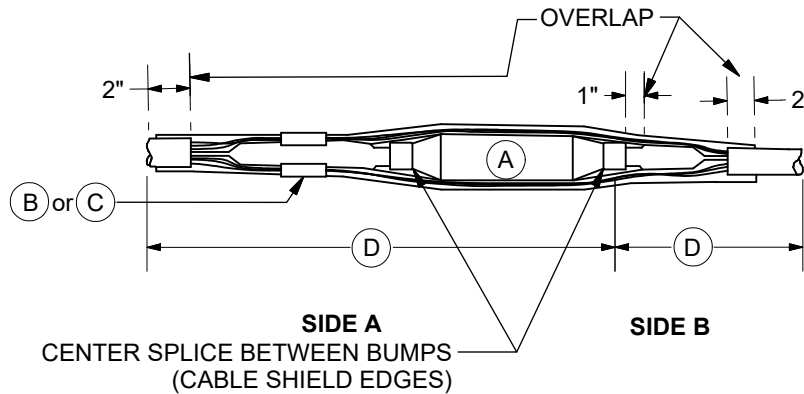

Figure 3
10. Lubricate insulation and semi-con shield of Cable B with silicone grease. Slide splice body onto Cable B and into final position over the connector. Use the bumps formed on the splice ends as guides for centering. See Figure 3.